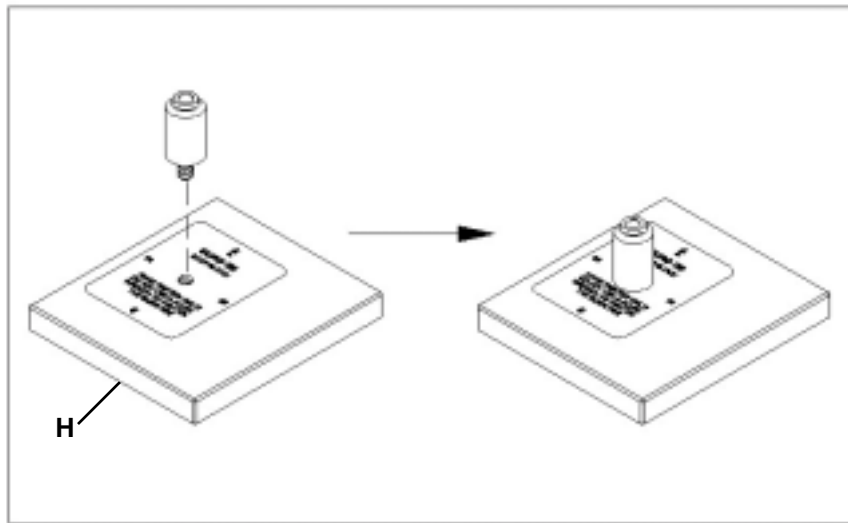

Figure 5
2. Take one of the guide-pins from one of the guide-rails used on the Euro 32 System and install it into the stop-block (H) as shown in Figure 5. **Hand tighten the guide-pin only DO NOT use a allen wrench to tighten!**